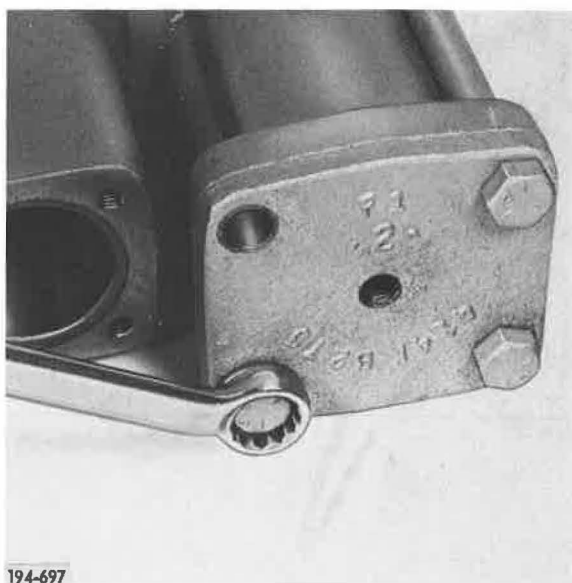

Figure 155. Removing Capscrews
9. Remove Lo/Hi shift cover cap-screws. See Figure 155.